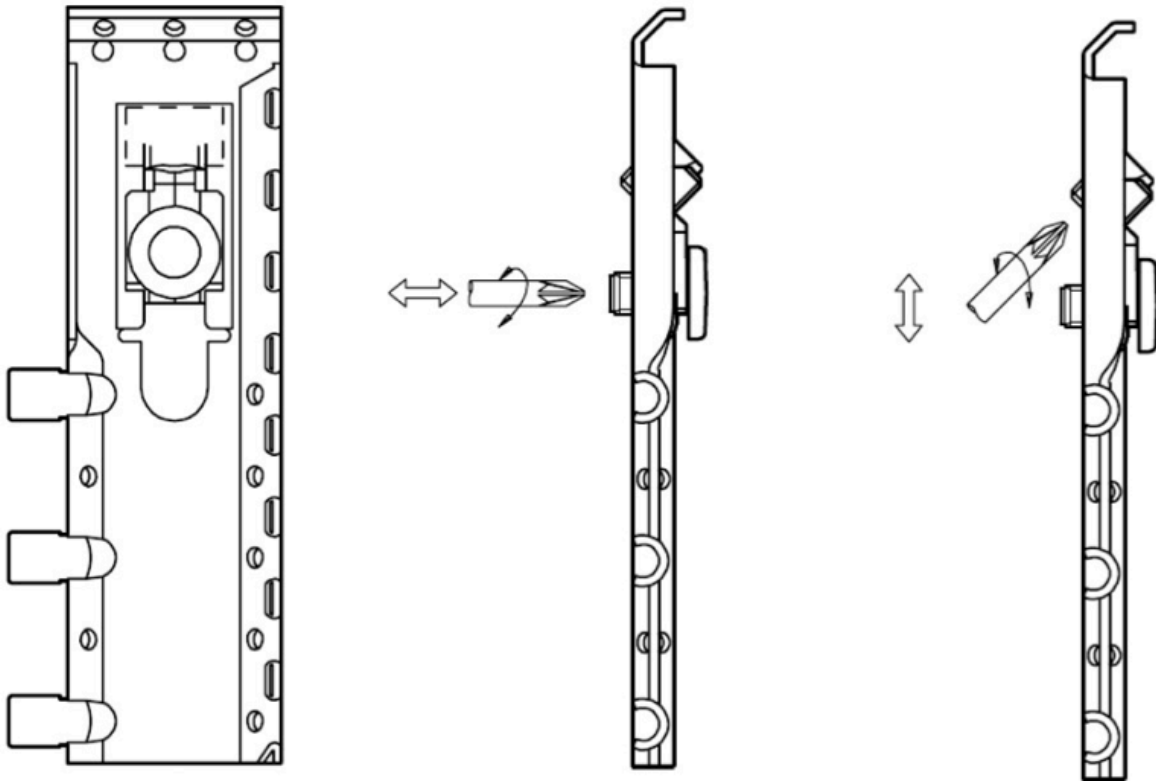

FIGURE 2
Before installing any of the wall cabinets, it is a good idea to familiarize yourself with the Z-Rail and the way the cabinets attach to the rail. First, you must back the brackets horizontal adjustment screw all the way out (see Figure 2 for the Bracket Overview, page 14). This will make hanging the cabinet on the wall easier, as it gives you a larger surface area for the Z-Rail to catch. If you do not back out the horizontal adjustment screw, the cabinet may not be completely secured to the wall.
- b. If the cabinet is covering the line or is not level, using a screwdriver with a Pozi bit, turn the vertical adjustment screws (see Figure 2 for the “Bracket Overview”, page 14) on both sides of the cabinet to raise or lower the cabinet. Double check the level using a torpedo level.